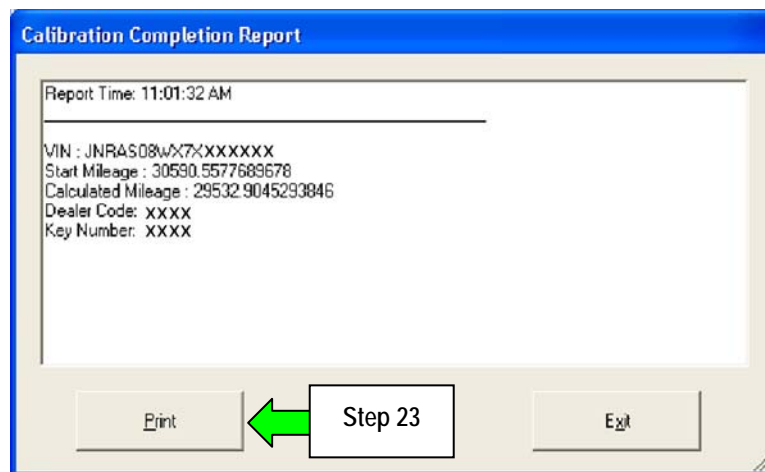

Figure 1L
22. After waiting 2 minutes, the **Calibration Completion Report** will display (see Figure 1L).